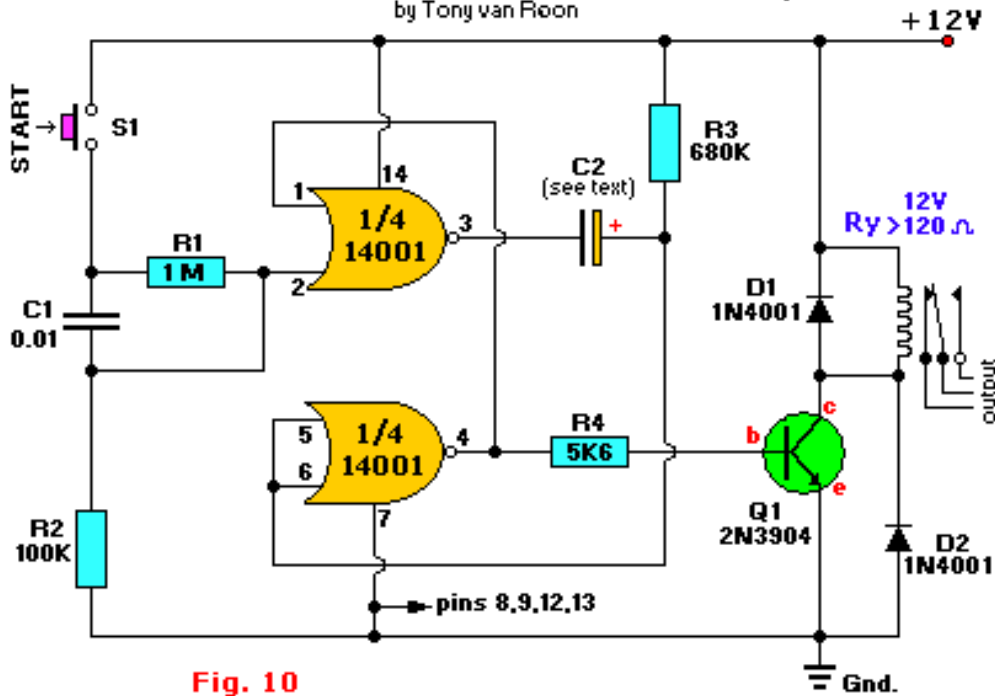

Fig. 10
**Fig. 10:** This circuit shows a pair of CMOS NOR gates which form a push-button-activated one-shot multivibrator relay-switching circuit that provides delays up to several minutes with reasonable accuracy. The relay turns on as soon as the START switch S1 is closed. However, it turns off again after a preset delay of about 0.5 seconds per microFarad (uF) of the value of capacitor C2. The two CMOS gates are configured as a manually-triggered monostable multivibrator whose output is fed to the relay through R4 and transistor Q1.